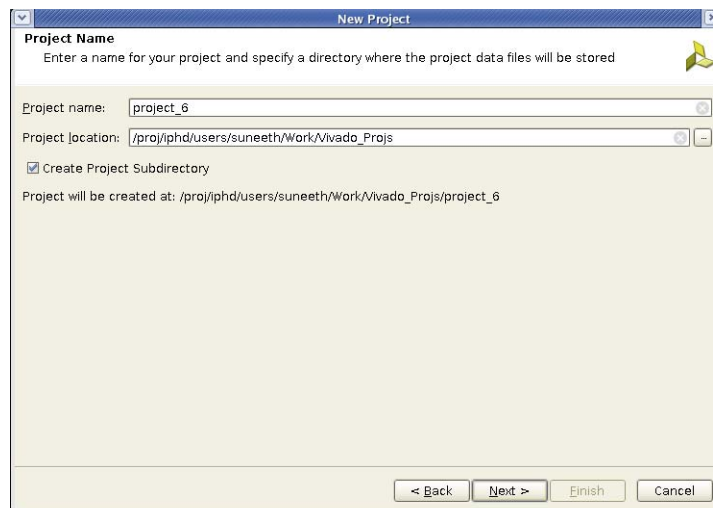

Figure 6-6: Project Name
4. Set the project options (Figure 6-6 through Figure 6-11):
5. Set the project options (Figure 6-6):